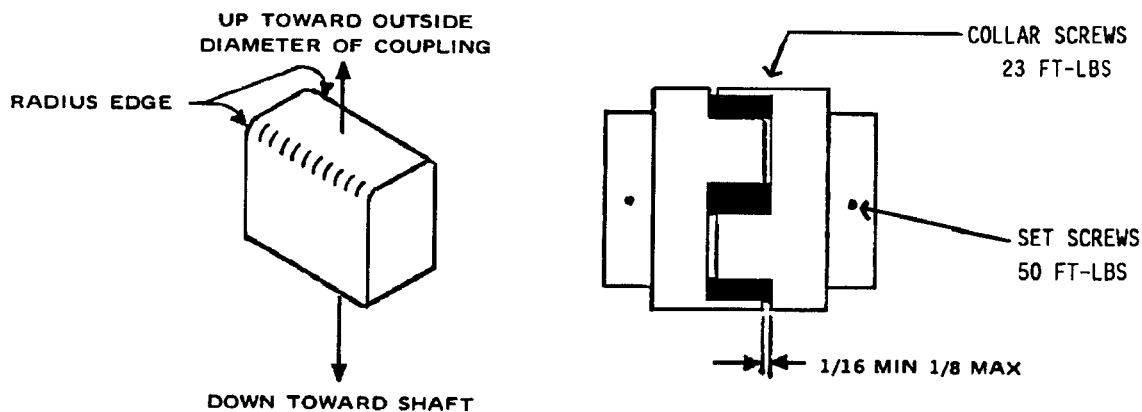

FIGURE 7-1 - INSTALLATION OF COUPLING CUSHIONS
COUPLING - The motor and compressor are direct connected by a resilient type flexible coupling with several individual cushions, Figure 7-1. Coupling does not require lubrication.
Individual Cushion Design (Figure 7-1)
4. Insert individual cushions as shown in Figure 7-1 and slide collar over cushions and secure with cap screws. Reinstall the coupling guard.